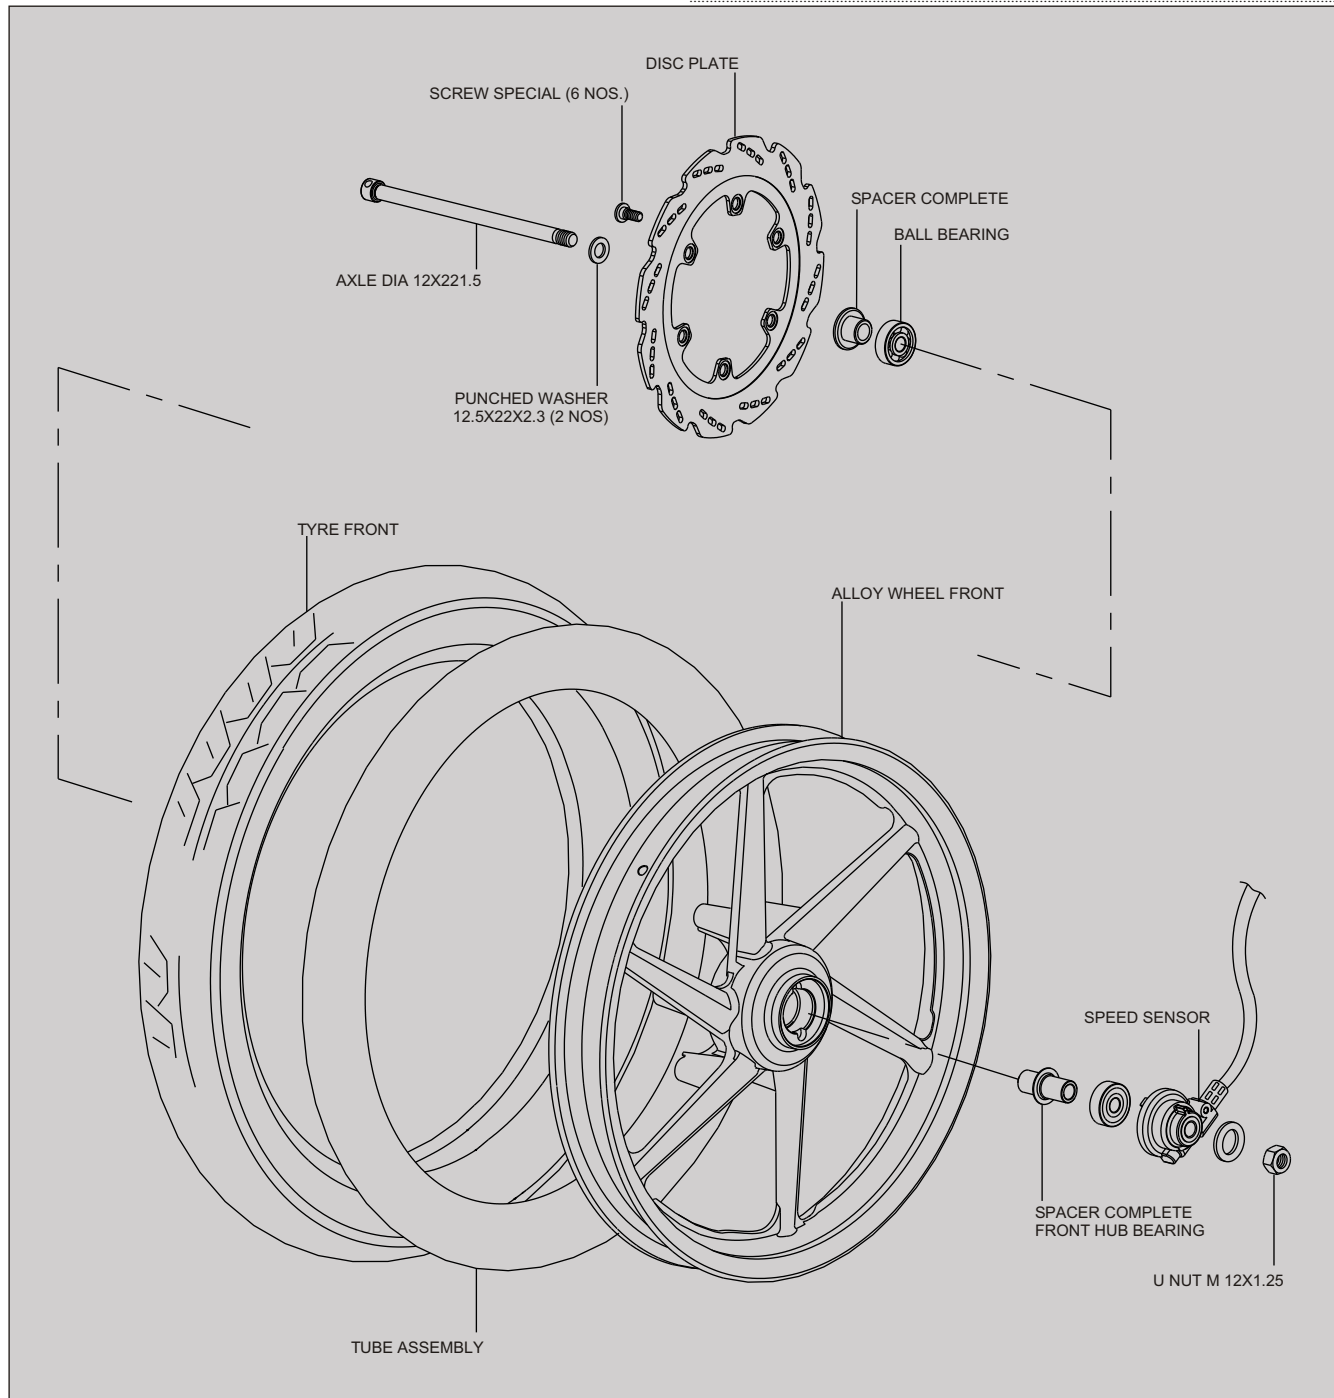
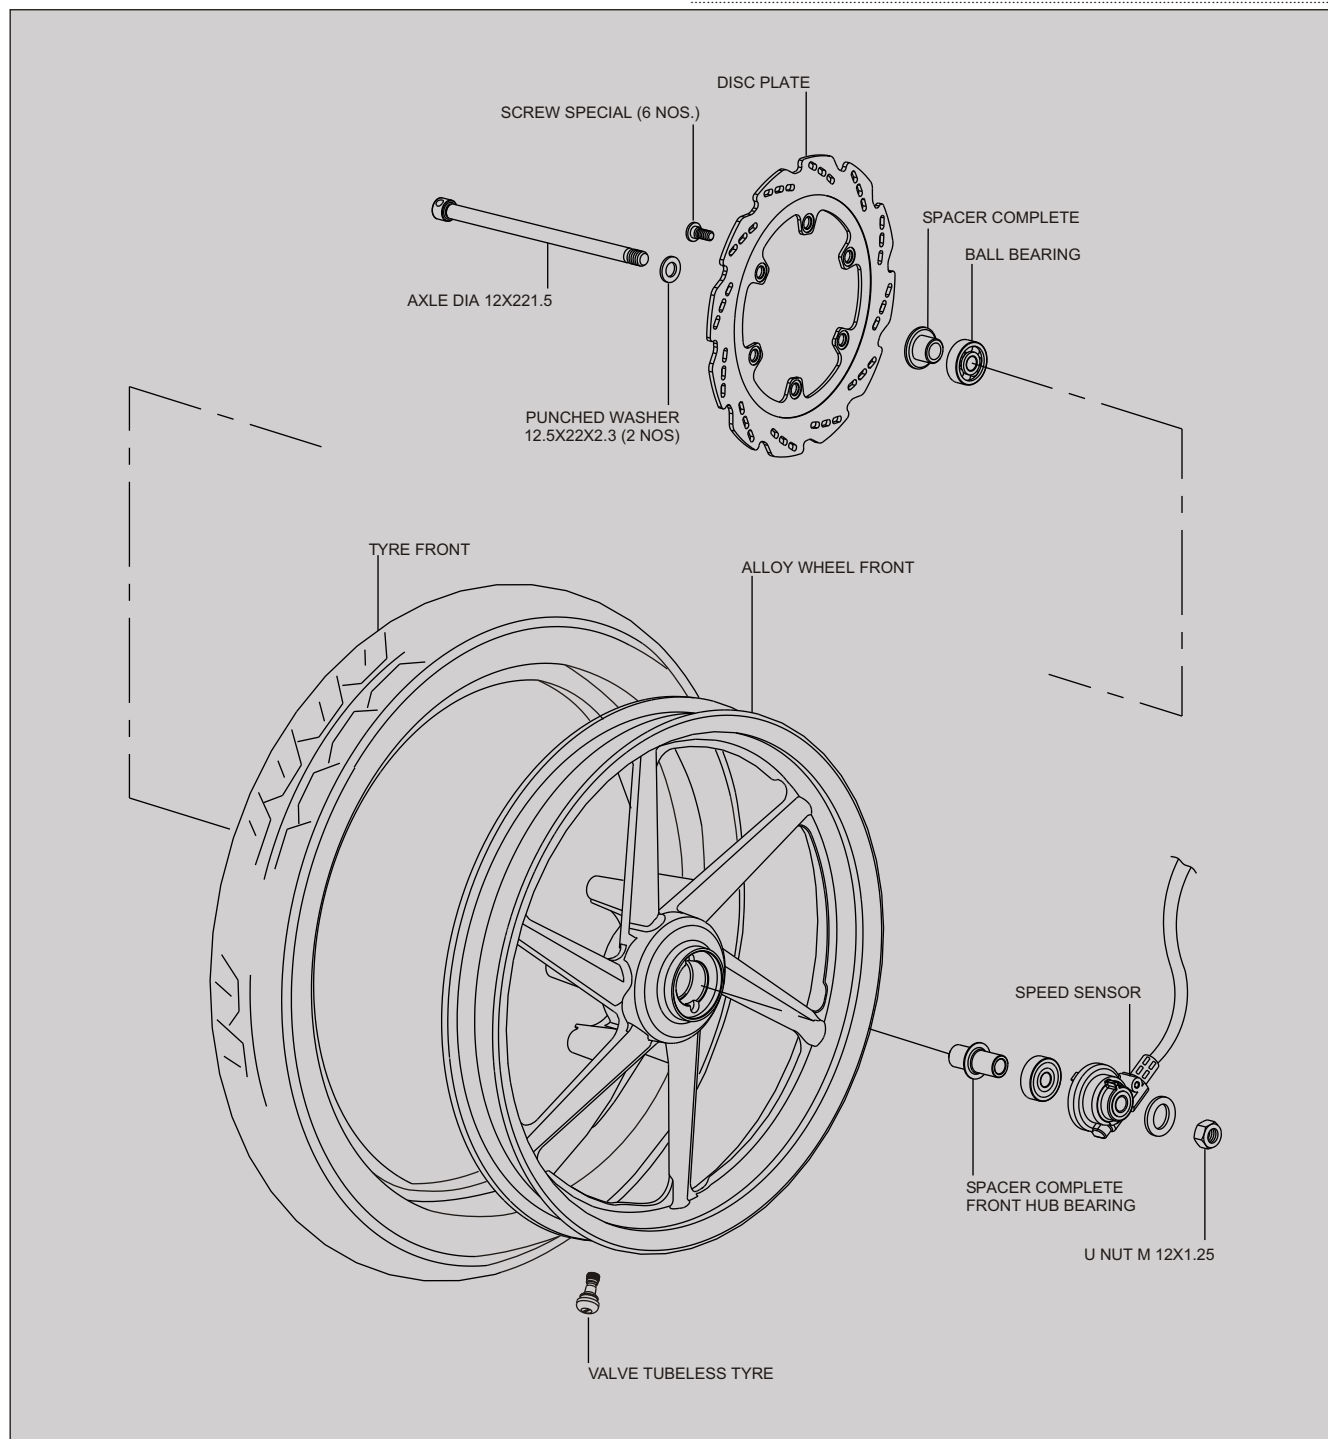

Fig. 6.10
Fig. 6.11
- Reassemble wheel assembly front in the reverse order of disassembly and removal. Please refer wheel assembly front exploded view (Fig. 6.10 & Fig. 6.11) for assembly details and carry out following steps: